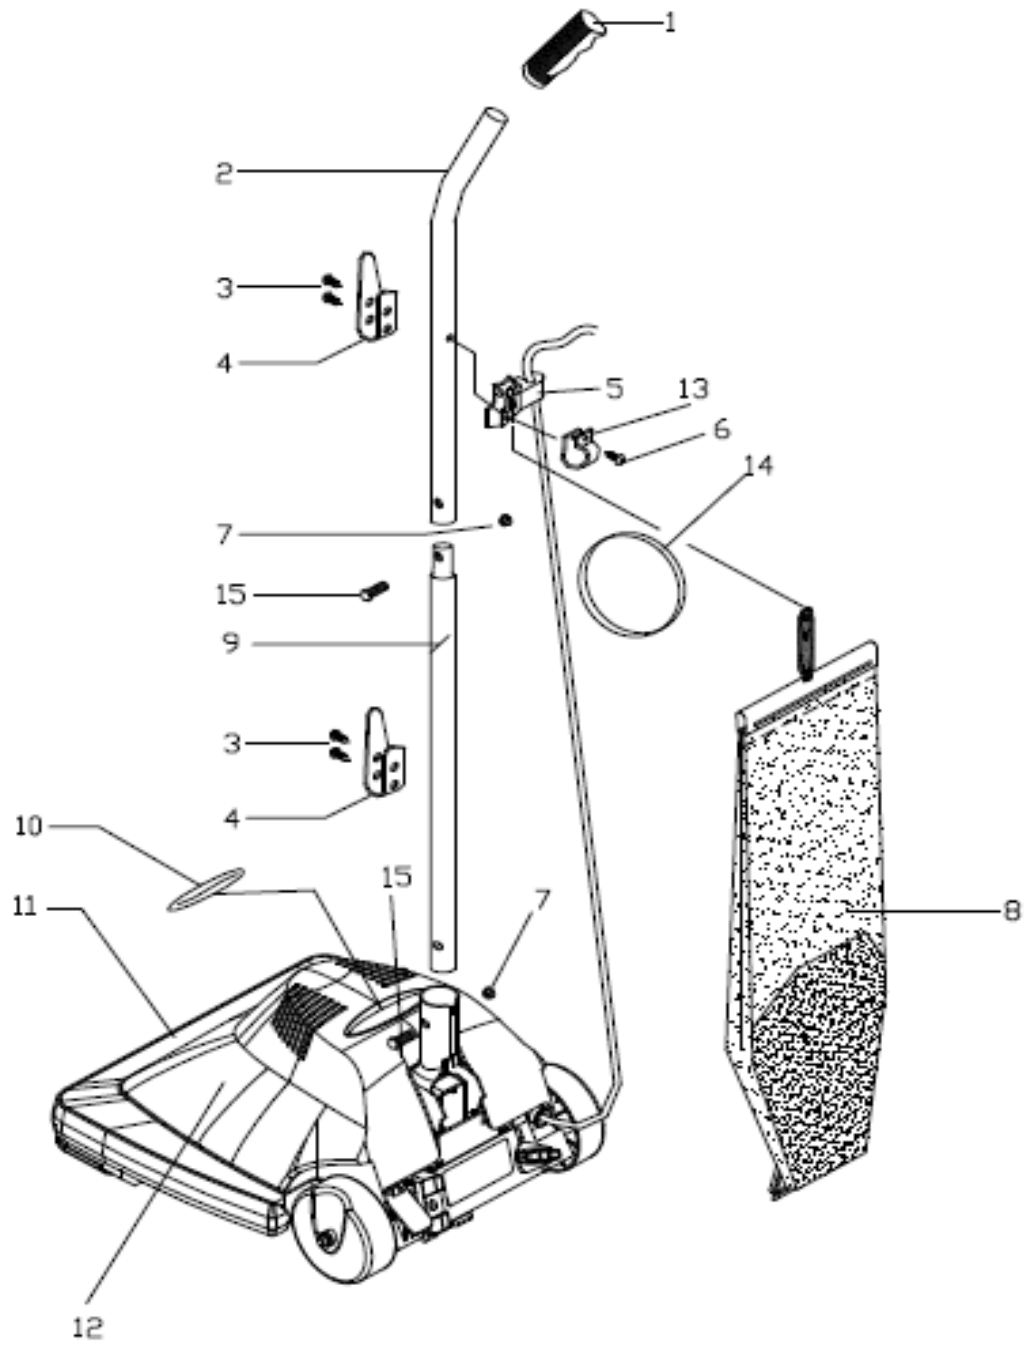

FIG. 1
1.-TO REMOVE BAG (8), FIG. 1
2.-TO REMOVE HANDLE TUBE (2, 9) FIG.1 y FIG.2
7.-TO REMOVE THE COVER (2), FIG. 1 AND FIG.2
- 7.1.-Remove the bag (8) (Fig. 1)